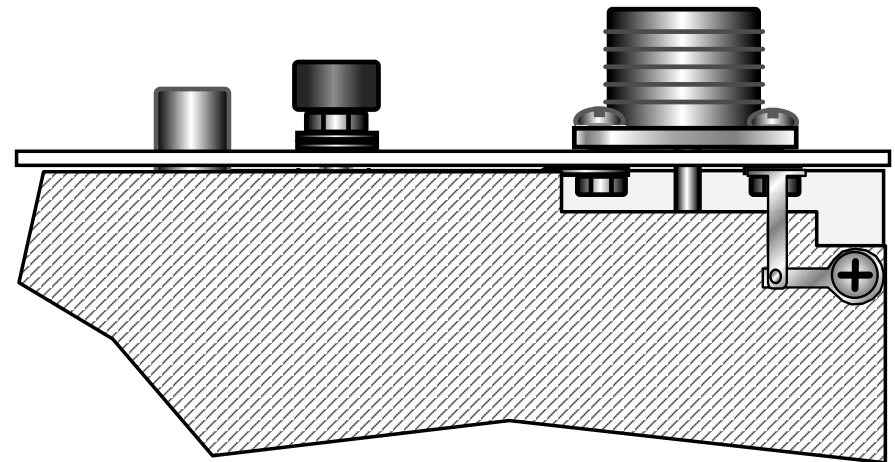

Figure 39a
- The two remaining solder lugs will be used to form a ground strap between the shield and rear panel as shown in Figure 39a. Attach one lug to the shield screw nearest the SO239 connector. The lug replaces the lock washer, which can be saved as a spare.